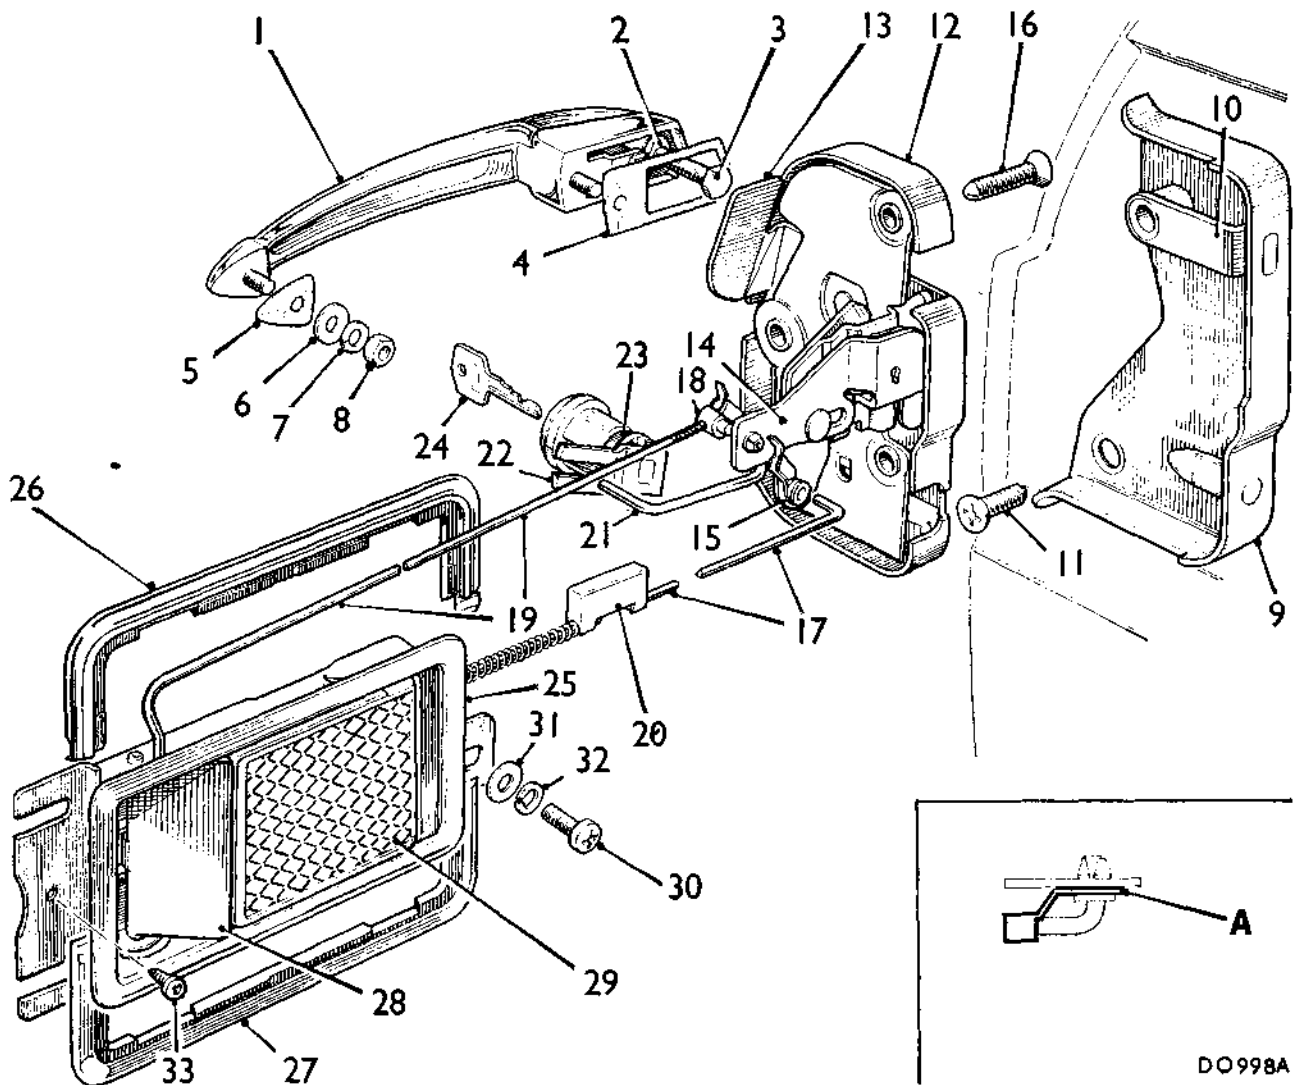

Fig. R.11
9. Check that the plastic bushes and spring clips are correctly assembled in their respective holes in the release lever and the locking slide. Each bush must be fitted with its head away from the centre of the latch with the spring clip fitted under the head (see inset A, Fig. R.11).